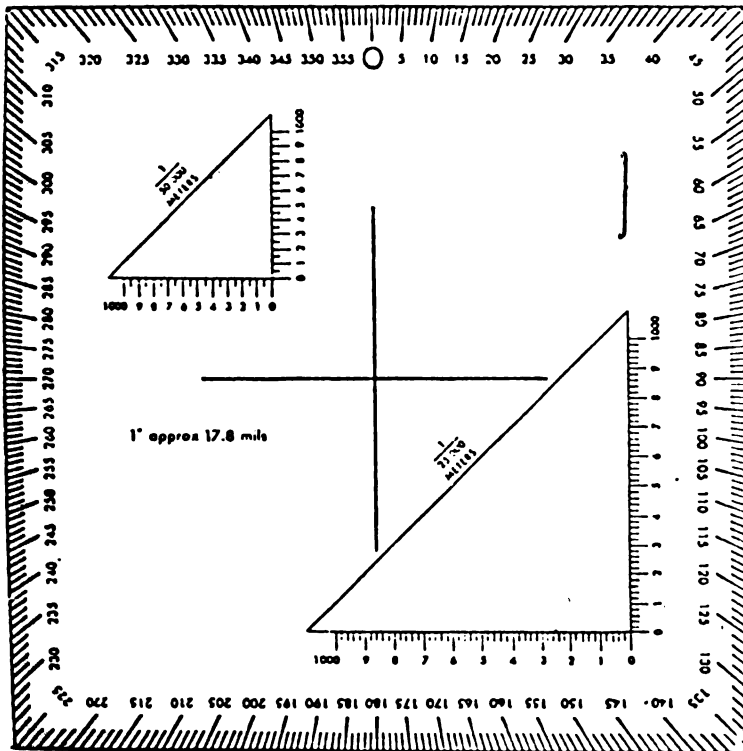

Figure 2
4. Using the coordinate scale designated as 1/25000 (fig. 2), plot the remaining portion of the coordinate.